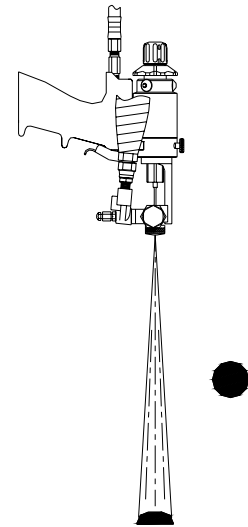
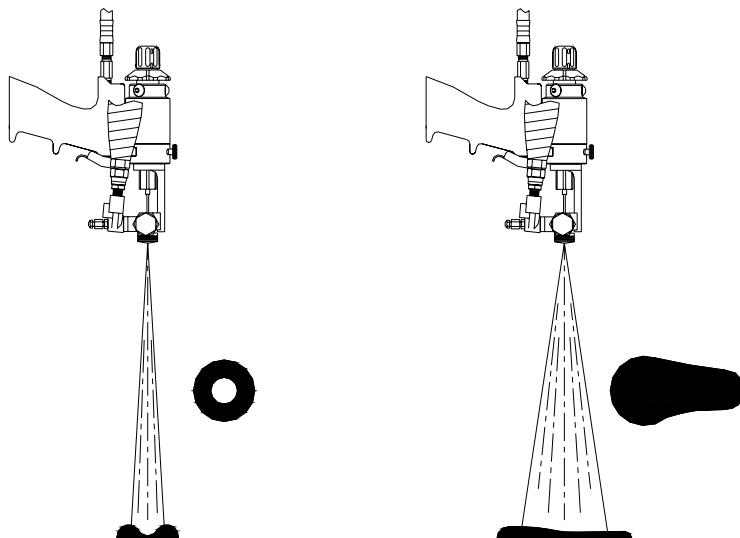

Figure 10. Point of Valving
Figure 11. Opening the Spray Pattern
2. LOCATE THE POINT OF VALVING- Aim the gun at a disposable target. Dispense short (one-second) bursts at the target while turning the Valving Rod Adjustment Sleeve clockwise by ¼-turn increments. When the chemical stream mists as shown, the point of valving has been reached (see Figure 10). Note the position of the notch on the Adjustment Sleeve. Now back the Sleeve out counterclockwise the number of turns specified in Table 1 on page 24. Notice the spray pattern opens up as the adjustment is made (see Figure 11).